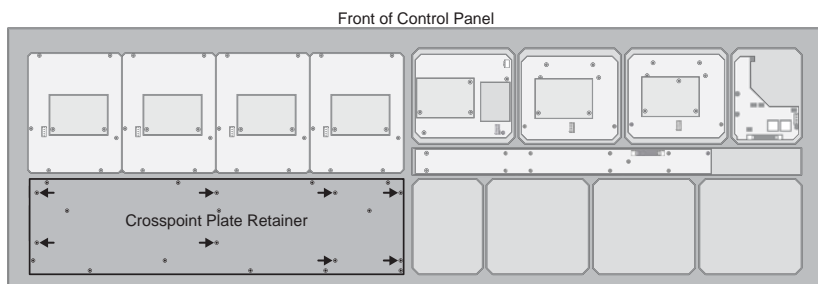

Figure 1 Crosspoint Plate Screws — Vision 2X
4. Remove the **8** screws securing the **Crosspoint Plate** to the top of the control panel (**Figure 1**).